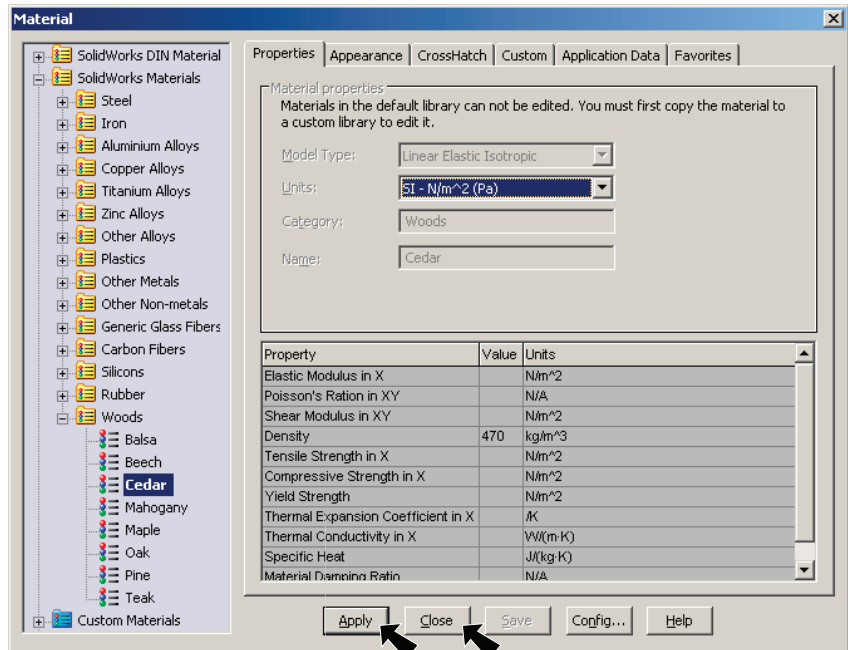

Fig. 35
Step 3. **Expand Woods** (click the +) in the material tree and select **Cedar**, click **Apply** and **Close**, **Fig. 35**.